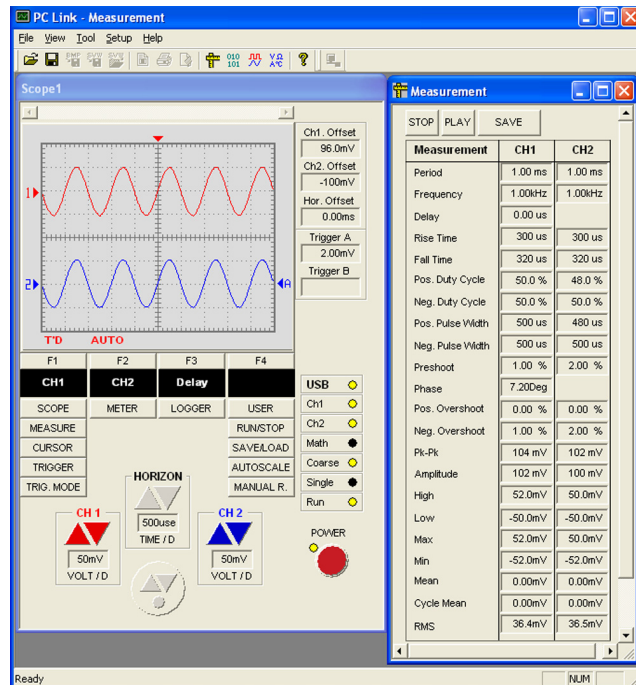

Figure 13 Data measurement window
- 2 The data measurement window will appear and it will display the 22 auto-measurement data for channel 1 (CH1) and channel 2 (CH2) in real time as shown in Figure 13.